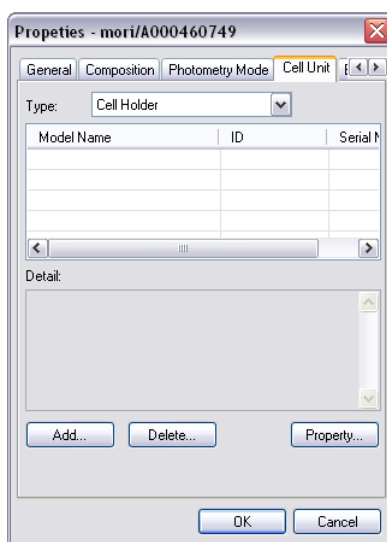

Figure 2.7 [Properties] screen when the <Cell Unit> tab is selected (dialog title spelling)
- (3) Select the [Temperature Controller] menu by clicking the arrow on the extreme right of the <Type> box.
- (4) Check the <Add...> button of Figure. 2.7. The following screen appears.
- (5) Select “PTC-423S” by clicking the arrow on the extreme right of the <Accessory ID> box.
- (6) Enter the serial No. in the <Serial No.> boxes. Write a comment if necessary.
- (7) Click the <OK> button. The screen of Figure. 2.7 becomes as follows when the accessory “PTC-423S” has been registered correctly.